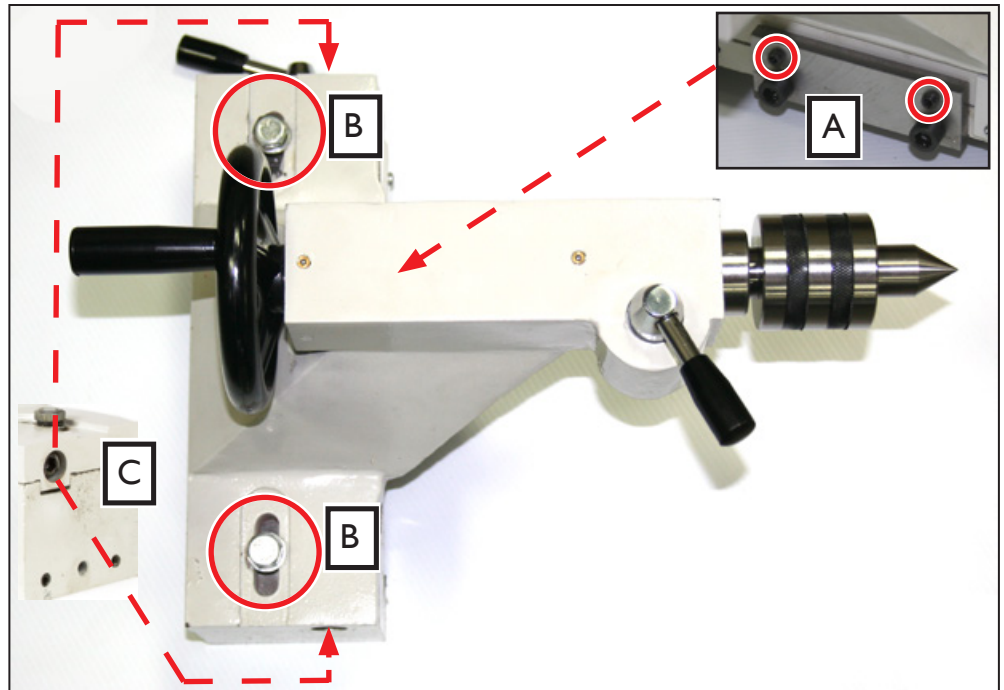
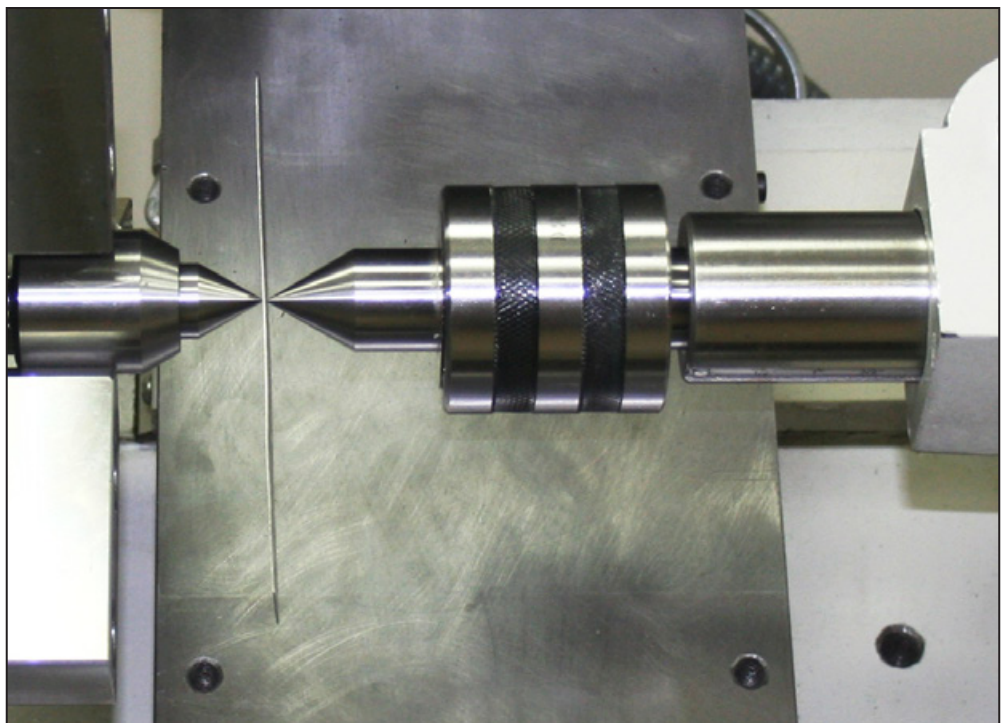

Figure 11
Figure 12
4. Using the tailstock adjustment points (A and C) shown in **Figure 11**, fine tune the tailstock's live center alignment until the 6" rule is straight (see **Figure 12**).